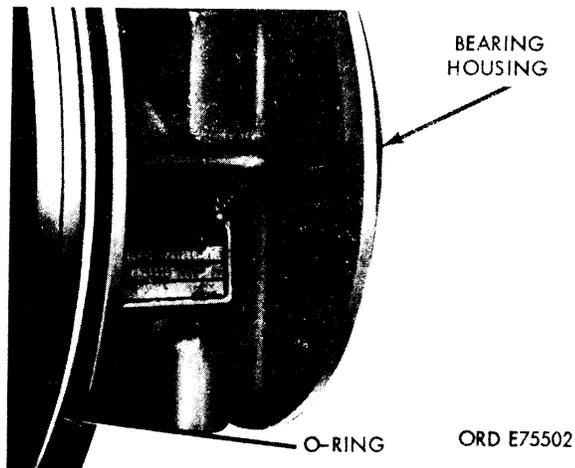

Figure 64. Removing bearing housing O-ring.
(3) Remove compressor cover (B, fig. 15) with clamp (C, fig. 15). Remove and discard O-ring from bearing housing (fig. 64).